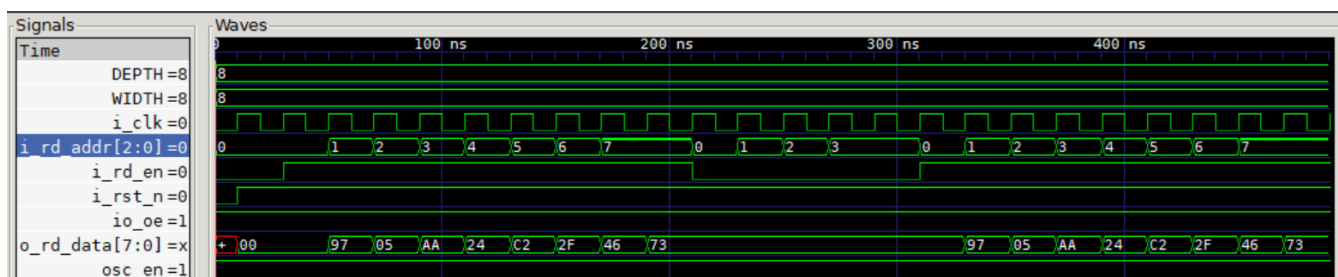

Figure 2: Functional Waveforms in GTKWave
Using the ForgeFPGA Workshop software, the Verilog code was synthesized, and the bit stream was loaded on to the SLG47910V device. The functional waveforms below (see Figure 2) show the read-out data from address 0 to 7. The data output is 1 clock cycle delay from address input when read enable is high.
10. In the GTKWave software, select the signals you want to view and Click Insert on the left corner to insert the signals in the wave window. Once the desired signals are selected, click on Reload (Figure 2).